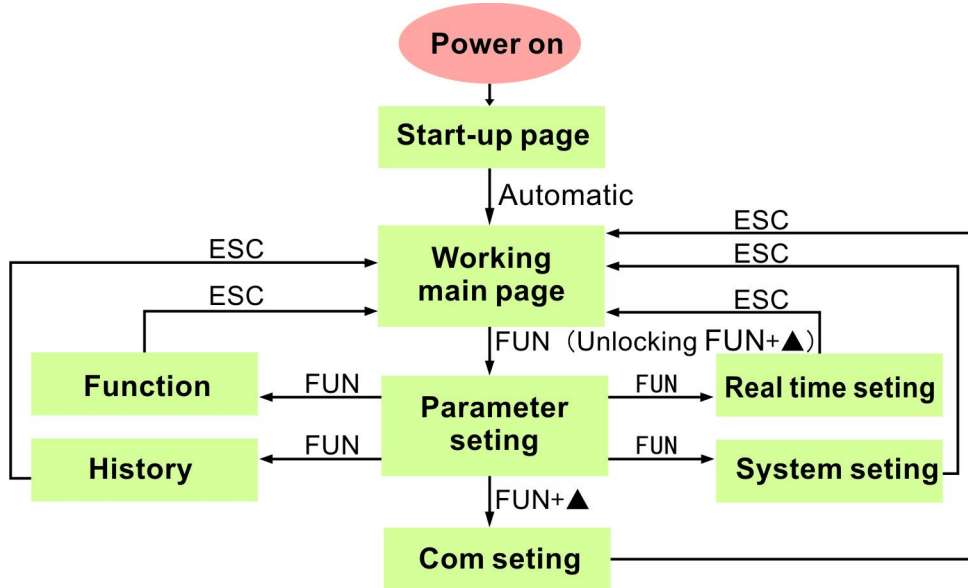

Figure 13: Flow chat of switching the menu page
3) Pressing the key 'FUN' (press 'FUN+▲' under the state of key locked) to enter into the Parameter setting menu , see Figure 13
3) Function key. The key is used to switch the menu page (refer Figure13).